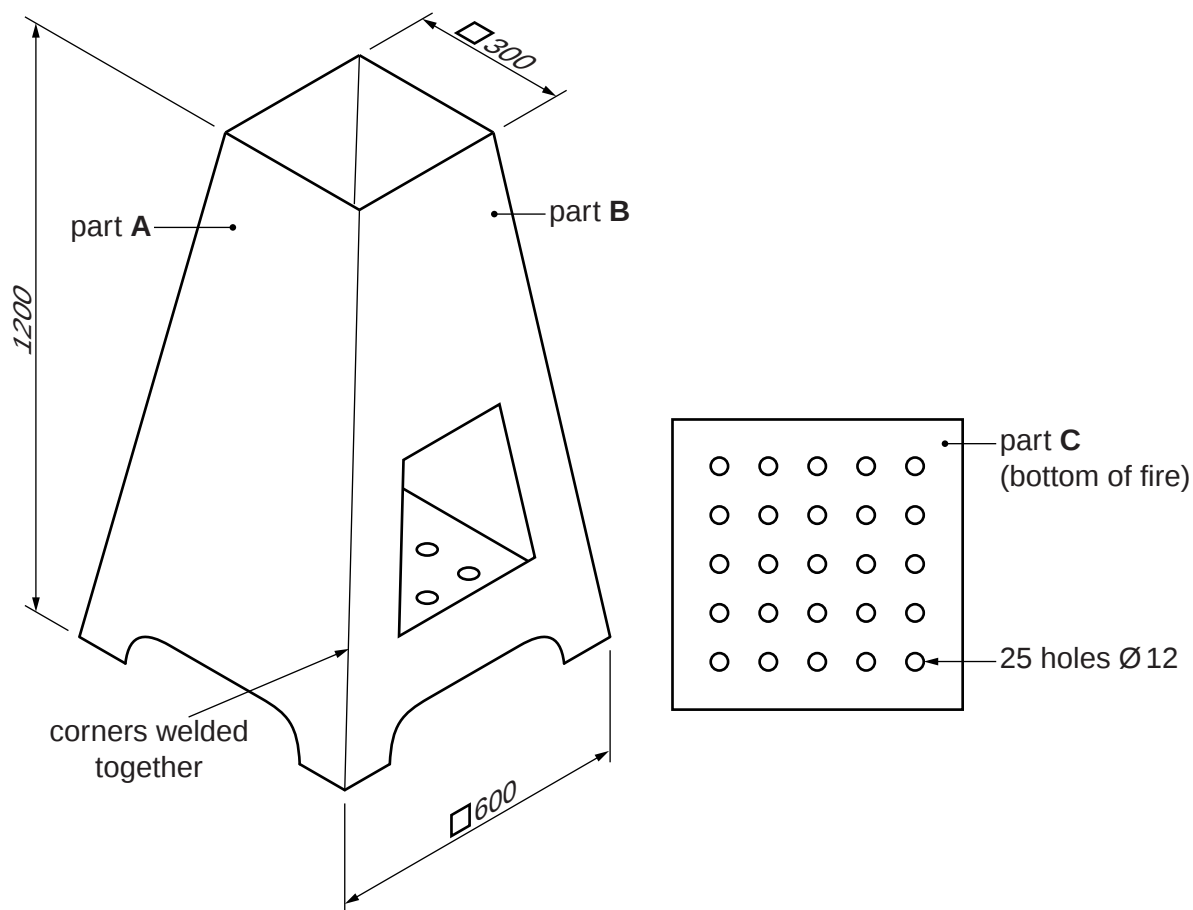

Fig. 2
- 2 Fig. 2 shows an outdoor fire which is to be made in a school workshop. The fire will be made from five separate pieces of mild steel sheet.